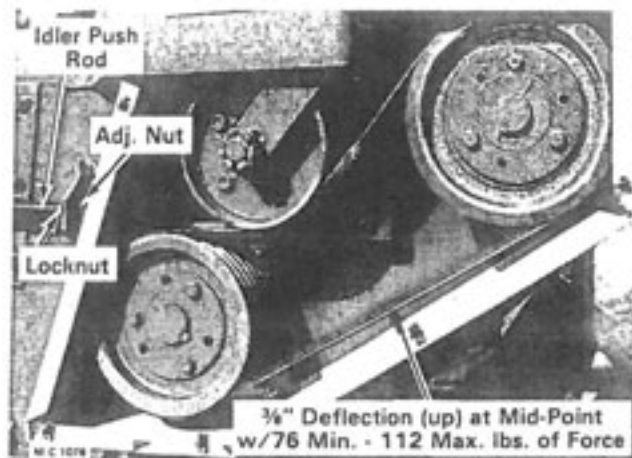

Figure 30 - Above S/N 50438
2. Correct belt tension is $\frac{3}{8}$ " upward deflection (full width of the belts) at mid point with a force of 76 lbs. min. - 112 lbs. max., see Figure 30.